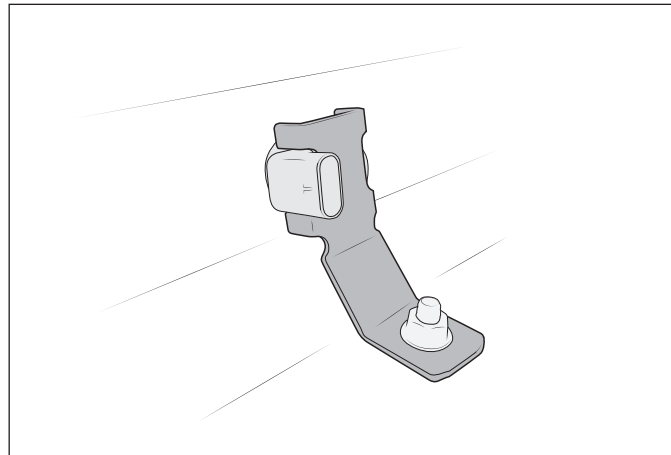

Figure 9
5. Install sensors into center section with the provided brackets. Connectors should point toward center of vehicle. Install supplied bolts and washers from the bottom of the bumper, through the brackets, and install provided nuts from the top. Torque to 8 lb-ft (fig. 9).